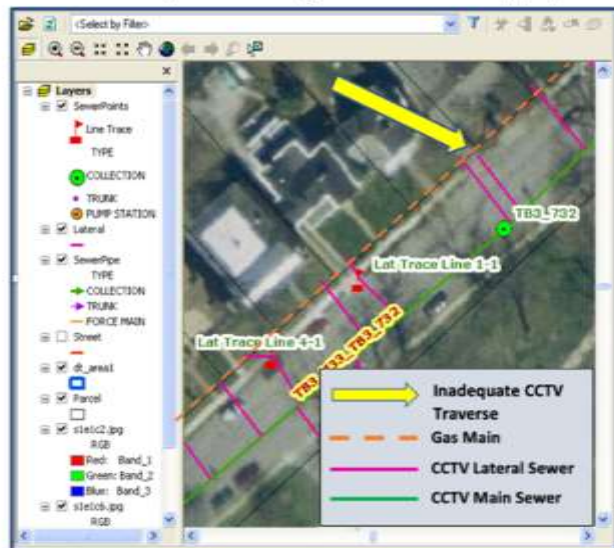

Figure 9: GIS mapping illustrates sewer inspection has not traversed beyond the risk. Note the YELLOW arrow.
- i. If the inspection is incomplete, the data analyst is assisted by knowing where the gas line is in comparison to the traverse of the sewer inspection, see Figure 9, which illustrates an inspection which was not beyond the gas line and risk of a cross bore remains.